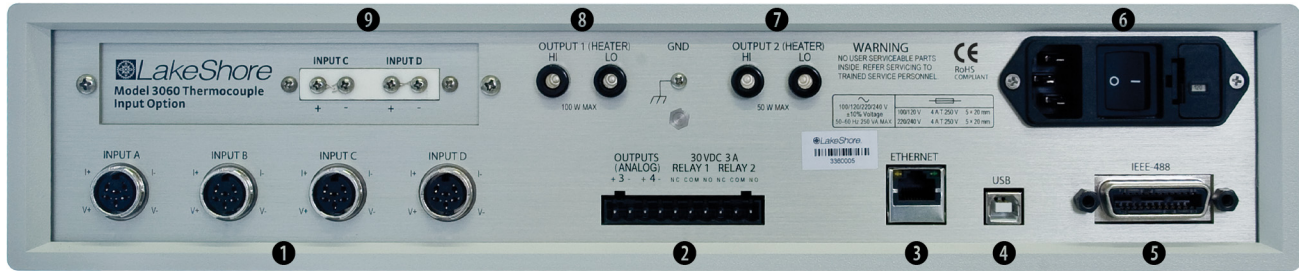

FIGURE 3-1 Model 336 rear panel
This section provides a description of the Model 336 rear panel connections. The rear panel consists of the Input A, B, C, and D sensor input connectors (#1 in FIGURE 3-1), Output 3 and 4 analog voltage output and relays 1 and 2 terminal block connector (2), RJ-45 Ethernet connector (3), USB B-type connector (4), IEEE-488 interface connector (5), line input assembly (6), Output 1 and 2 heater output connectors (7 and 8), and the thermocouple option card inputs (9). Refer to section 8.10 for rear panel connector pin-out details.